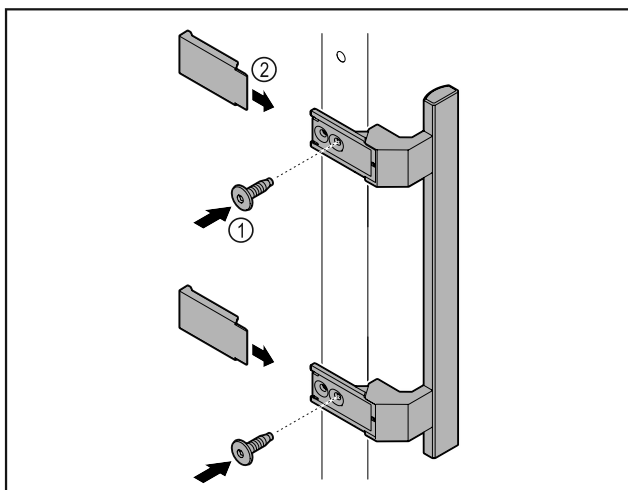

Fig. 49
- Attach handle from accessory kit to the door using the screws Fig. 49 (1) supplied.
- Put on cover Fig. 49 (2).